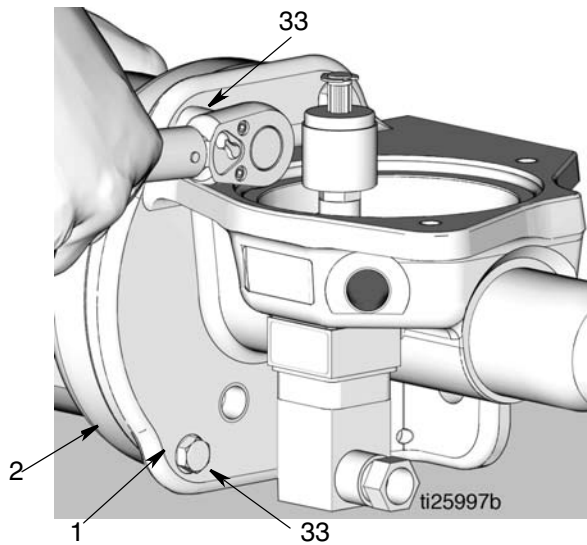

FIG. 20
15. Use a 3/8 inch socket to remove the 4 bolts (33) holding the air cylinder (2) to the pump base (1) (FIG. 20). Remove air cylinder from the pump base.